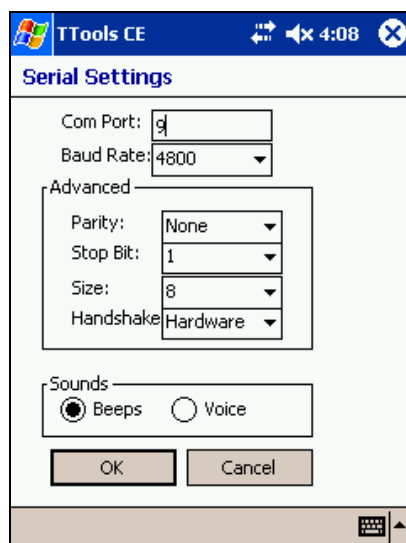

Figure 8.0: Serial Settings Dialog Box
1. Open the communications port using menu item File | Serial Open Port. The *Serial Settings Dialog* as shown in Figure 8.0 will appear.